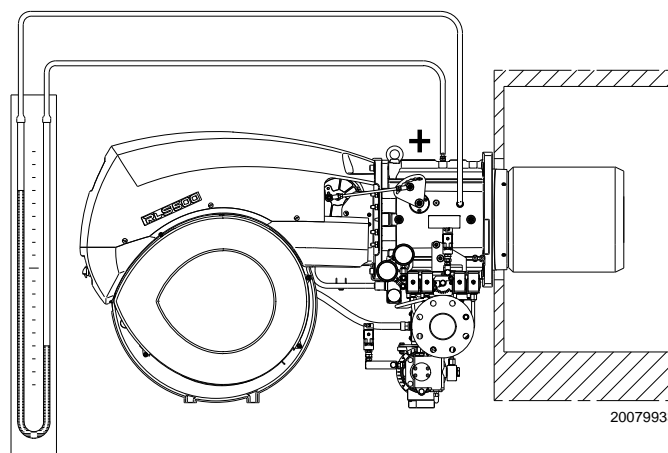

Fig. 29
- Fit a U-type manometer or a differential pressure gauge (Fig. 29), with the (+) fitting on the header gas pressure tap and (-) fitting in the combustion chamber.
The arrival of gas at the sleeve is indicated by the U-type manometer (Fig. 29 on page 27).